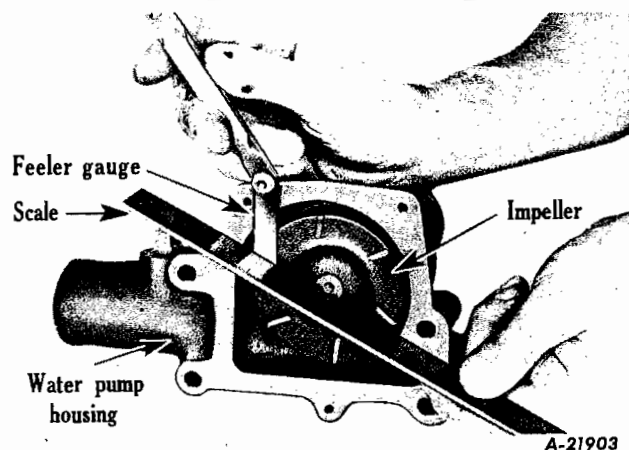

Fig. 40
4. Mount assembly in press. Press impeller on rear end of shaft. Place a straight edge across the back of the water pump housing and check the clearance between the straight edge and impeller. There should be about .025" clearance (Fig. 40).